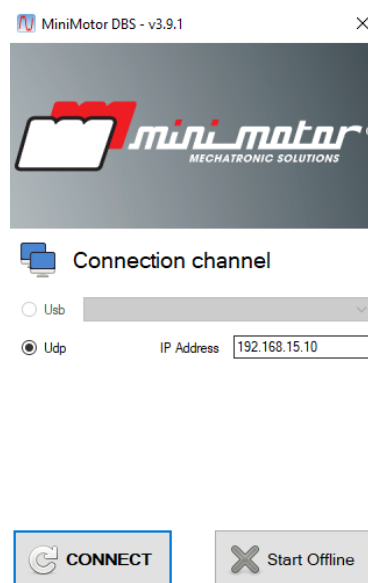

Figure 12
The wirings and LEDs in Figure 12 refer to the Ethernet IP equipped version.
The wirings and LEDs in Figure 12 refer to the Powerlink equipped version.
The wirings and LEDs in Figure 12 refer to the Profinet equipped version.
- 5 Once the program is run, select the connection type. If choosing USB, wait for the device to be found and connect. If the DBS is connected via Fieldbus to a net that can exchange data over Ethernet (Ethernet IP, Profinet, Powerlink and EtherCAT with EoE functionality) you can connect typing the DBS IP address. (Figure 12).
- 6 If the firmware stored in the device is not up to date the screen in Figure 12 appears.